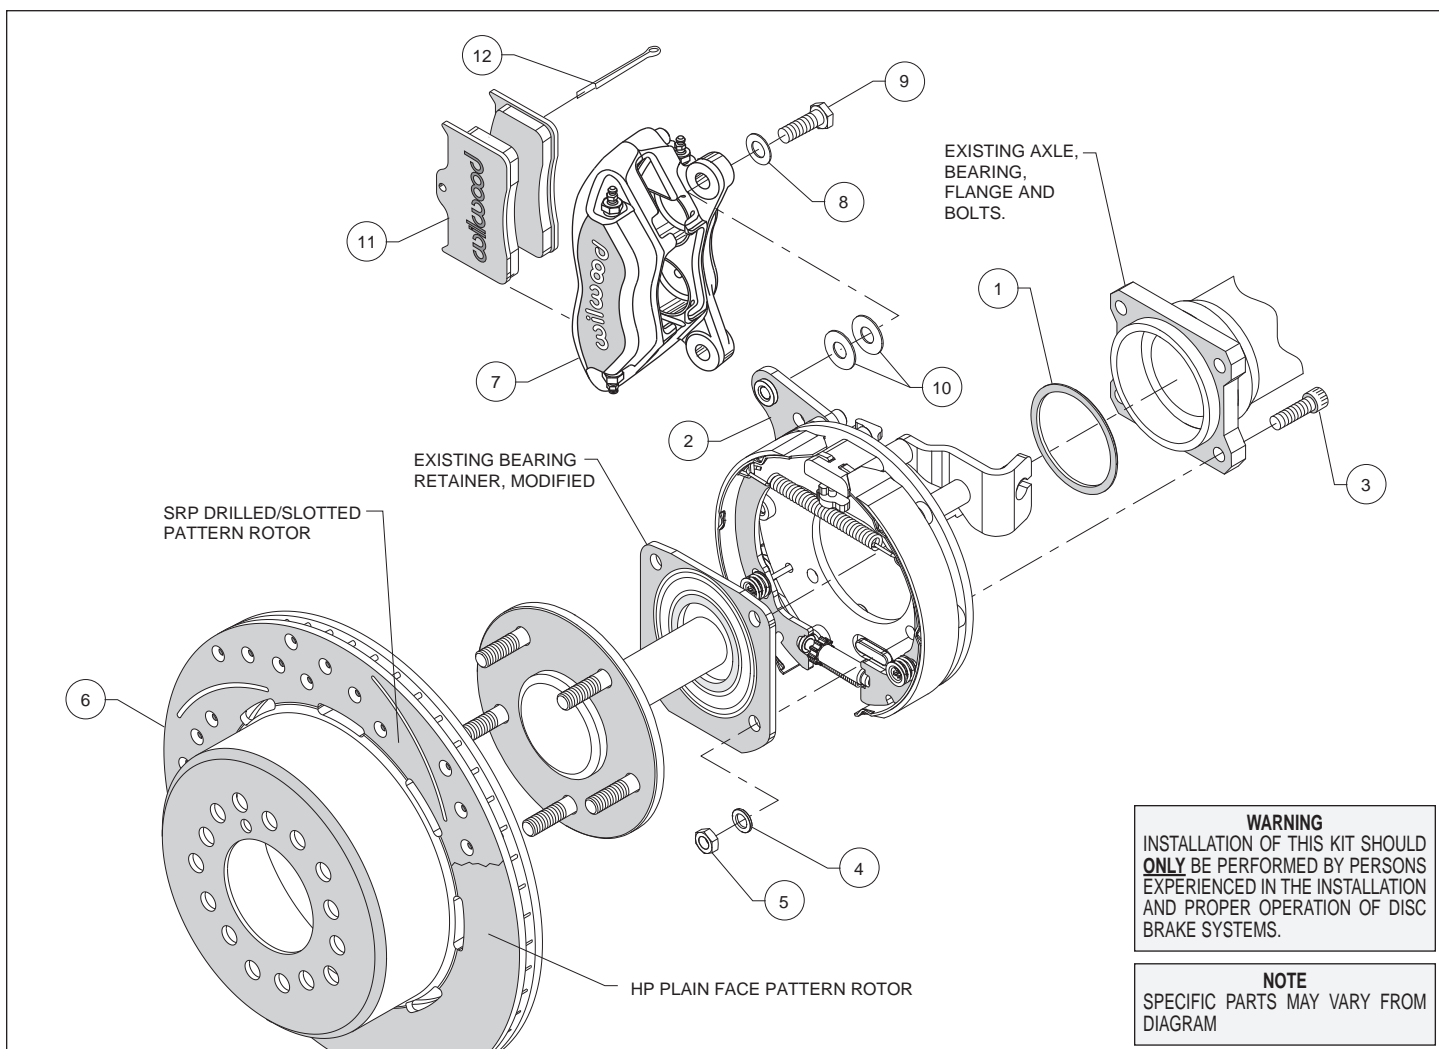

Figure 1. Typical Installation Configuration
**Assembly Instructions** (numbers in parenthesis refer to the parts list, and Figure 1 on the preceding pages): **CAUTION:** All mounting bolts must fully engage clinch nuts. Be sure to check that all bolts are either flush or protruding through flanged side of clinch nut after shimming, Figure 5.
- With the bearing retainer in place, slide the caliper mounting bracket assembly (2) onto the axle as shown in Figure 1 and Photo 1. Install axle shim (1) over axle shaft with bearing chamfer facing toward the axle housing, as shown in Photo 2.
- Slide the axle and parking brake assembly into the axle housing ensuring that the backing plate is flush with the axle housing flange and the bearing retainer is flush with the backing plate. Secure OEM bearing retainer using bolts (3), washers (4) and lock nuts (5), as shown in Figure 1. Hex nuts (5) and washers (4) that retain the caliper mounting bracket assembly (2) should be on the wheel side of the bracket, Figure 1. Torque nuts to 40 ft-lbs.
- Align the correct hole pattern in the rotor/hat (6) with the stud pattern on the axle flange and slide into place, Figure 1 and Photo 3. **NOTE:** The rotor/hat must fit flush against the axle flange or excessive rotor run out may result. Install three lug nuts (finger tight) to keep the rotor/hat assembly in place while continuing with the installation. **NOTE:** Some OEM and after market axles come with stud sizes larger than 0.50" diameter. Verify stud size and have a qualified machine shop drill the bolt circle of the hat/rotor to the correct stud size, if necessary.
- NOTE:** Please reference the caution statement at the beginning of the assembly instructions. Mount the caliper (7) onto the caliper mounting bracket (2) using bolts (9) and washers (8), as shown in Figure 1. Initially place two .035" thick shims (10) on each bolt between the caliper and the bracket, Photo 4. Temporarily tighten the mounting bolts and view the rotor (6) through the top opening of the caliper. The rotor should be centered in the caliper, Photo 5. If not, adjust by adding or subtracting shims between the bracket and the caliper. Always use the same amount of shims on each of the two mounting bolts. **NOTE:** The end of each bolt must be flush with or slightly protruding from the head of the clinch nut, as shown in Figure 5. If necessary place spare shims between washer (8) and caliper mounting ear to achieve the proper clinch nut engagement. Once the caliper alignment and clinch nut engagement are correct, remove the bolts one at a time, apply red *Loctite*® 271 to bolt threads, and torque to 40 ft-lb.